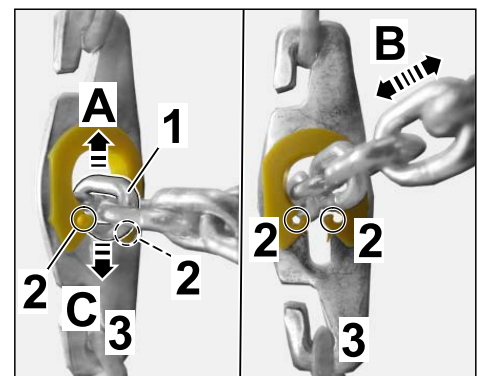

Figure 9
2.2.3 Guide chain link of the tensioning chain out of the lock in the slot on the locking plate (⇒ *Figure 9 -arrow-*).